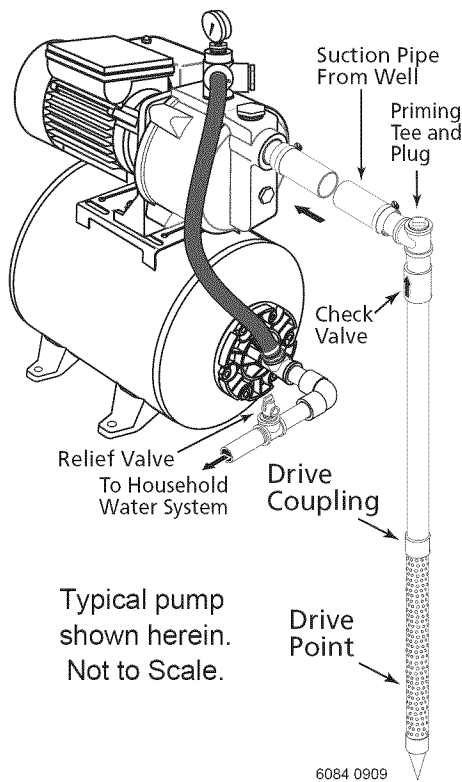
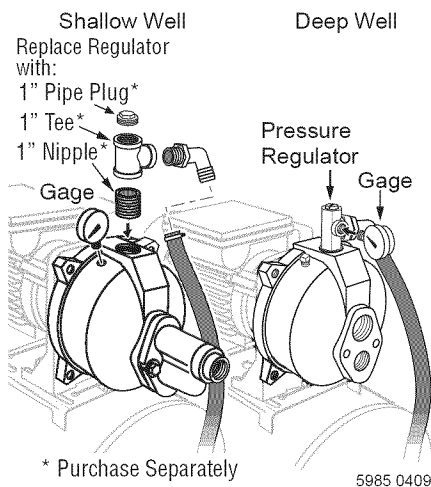

Figure 1: Driven Point Installation
Figure 4: Install Pressure Regulator and Gauge for deep well. Install Priming Tee and Gauge for shallow well.
Well Point (Driven Point) Installation (Figure 1)
- Step 3. Use the fewest possible fittings (especially elbows) when connecting the pipe from the well point to the pump suction port. The suction pipe should be at least as large as the suction port on the pump (include a check valve if your pump is not equipped with one – see Figure 1). Support the pipe so that there are no dips or sags in the pipe, so it doesn't strain the pump body, and so that it slopes slightly upward from the well to the pump (high spots can cause air pockets which can air lock the pump). Seal the threaded pipe joints with Teflon™ tape or Teflon™ based pipe joint compound approved for use on PVC. Joints must be air- and water-tight. *If the suction pipe can suck air, the pump cannot pull water from the well.* If one well point does not supply enough water, consider connecting two or three well points to one suction pipe.
- Step 2. Install the pressure regulator and pressure gauge in the pump body (see Figure 4).
- Step 2. Remove the pressure regulator from the pump body. Replace it with a 1" NPT close nipple, a 1"x1"x3/4" NPT Tee, and a 1" NPT pipe plug (see Figure 4). Install the pressure gage in the plugged hole in the pump body (see Figure 4).
- Step 1. Remove the control valve from the pump body. Replace it with a 1" NPT close nipple, a 1"x1"x3/4" NPT Tee, and a 1" NPT pipe plug (see Figure 1). Install the pressure gage in the plugged hole in the pump body (see Figure 4).
- Step 1. Install the pressure regulator and pressure gauge in the pump body. See Figure 4, Page 6.